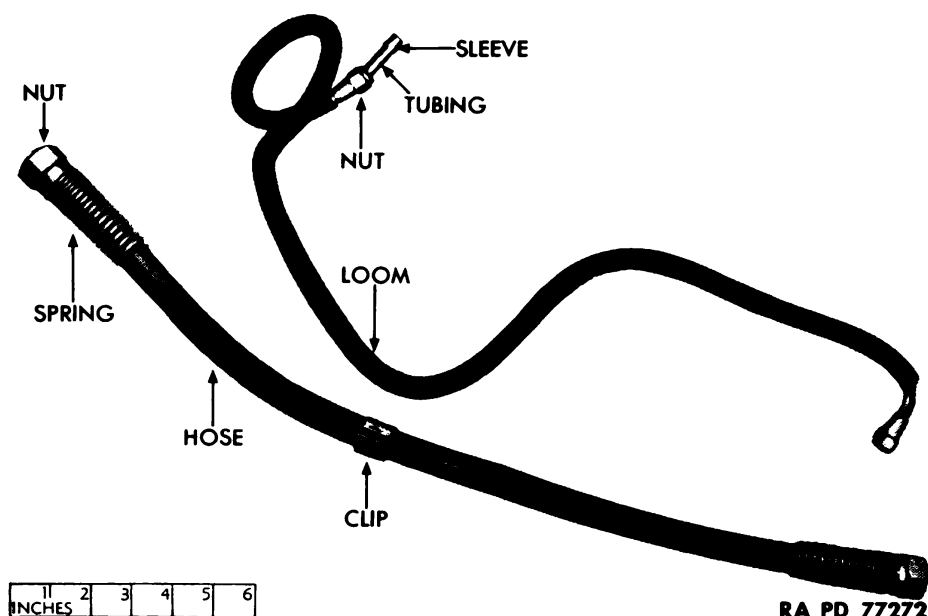

Figure 79 – Air System Tubing and Hose
(1) **DESCRIPTION** (fig. 79). Copper tubing is used throughout for the brake air system. It is carefully selected to avoid line friction and is heat treated to withstand vibration. Sleeve (ferrule) and nut connections are used. Rubber hose of heavy design is used at points in the system requiring flexible couplings. Hoses are furnished with detachable fittings.
b. Removal (fig. 79). Unscrew nut from fitting on each end of tubing or hose. Trace tubing its entire length and remove all clips. Work tubing or hose from vehicle.
(1) **CUT TUBING AND INSTALL FITTINGS** (fig. 80). Cut new tubing same length as that being replaced. Cut ends square and smooth up with a file. Slide nut and sleeve (ferrule) on each end (fig. 79).
d. Installation (fig. 79). Work or place tubing or hose into position on vehicle. Connect nuts on each end of fittings. Trace tubing its entire length and install all clips.